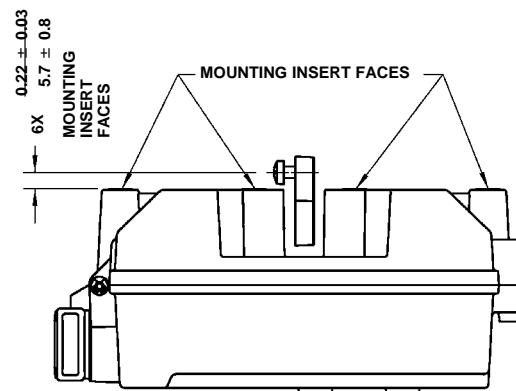

Figure 4. Mounting—Sliding-Stem Magnet Array
4. Align the magnet array as shown in figure 4.